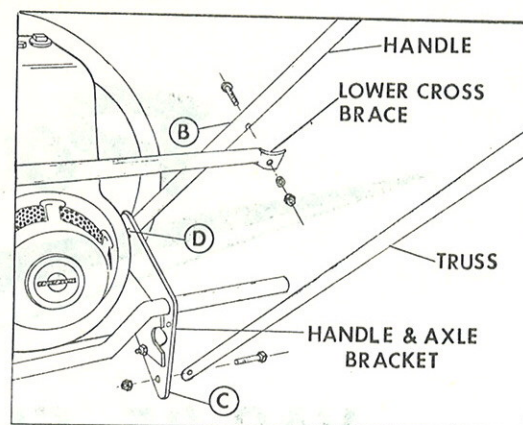

Figure 2
6. Assemble the two handles to top holes of the right and left handle and axle brackets with bolts and nuts (Ref. 31 and 22, Fig. 7) making sure a steel insert (Ref. 26, Fig. 7) is in the end of each handle as shown at point "D," Fig. 2. **DO NOT TIGHTEN.**
4. Assemble the lower cross brace on the bottom of the two handles Ref. 11, Fig. 7, with the bolts and nuts (Ref. 32, 33 & 34, Fig. 7) as shown at point "B," Fig. 2. **DO NOT TIGHTEN.**
5. Assemble the two trusses to bottom holes of the right and left handle and axle brackets with bolts and nuts (Ref. 31, and 22, Fig. 7) making sure a steel insert (Ref. 26, Fig. 7) is in the end of each truss as shown at point "C," Fig. 2. **DO NOT TIGHTEN.**